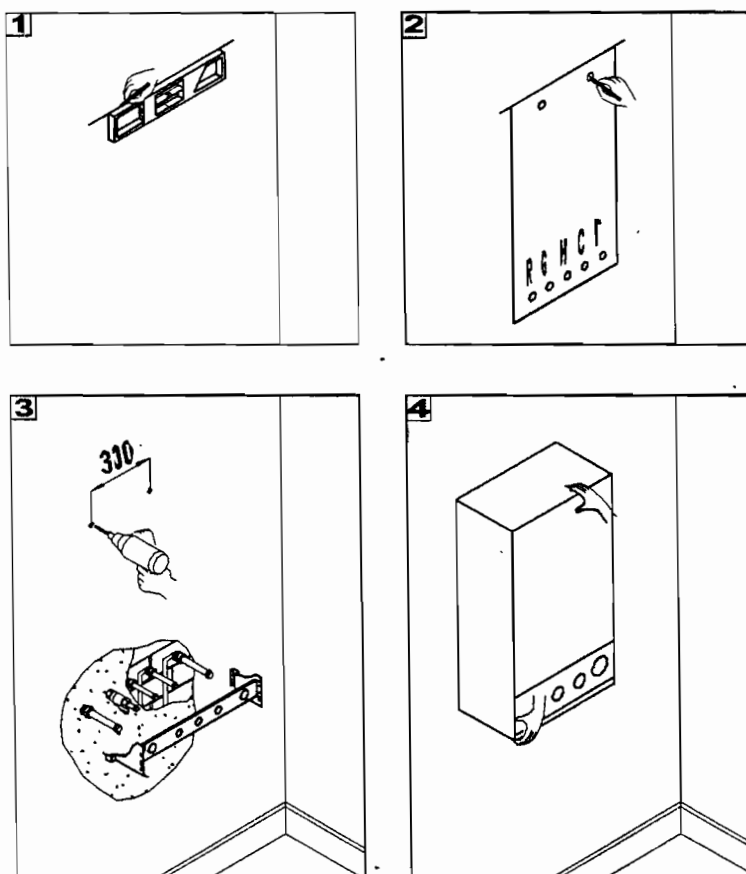

Fig. 2
- 2 - Position the top of the template on the line drawn with the spirit level (respecting the distances (see fig. 2 pos. 1), then mark the two points for insertion of the two screw anchors or wall anchors. Next, mark the water and gas starting points (see fig. 2 pos. 2).
- 3 - Remove the template and make connections to the hot and cold water supply, to the gas pipes, and to the heating system with the fittings supplied with the boiler (see fig. 2 pos. 3).
- 4 - Hang the boiler on the screw anchors or wall anchors and make connections (see fig. 2 pos. 4).